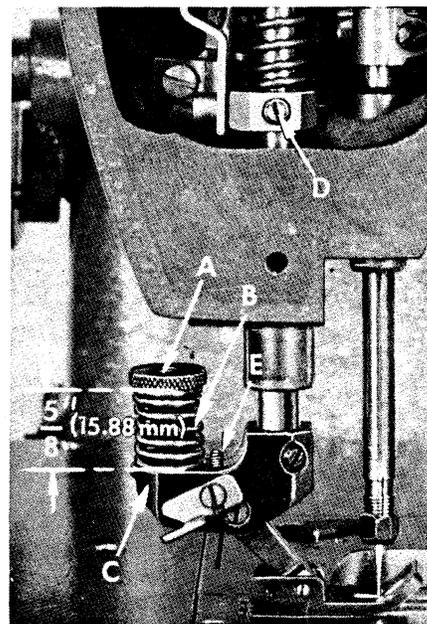

Fig. 17
As a preliminary setting, adjust spring regulator nut (A, Fig. 17) on feeding presser foot so the distance from the top of spring (B) to the yoke (C) is  $\frac{5}{8}$  inch (15.9mm), (See Fig. 17). Assemble the feeding presser foot to presser bar. With presser foot resting on throat plate and feed dog down, press down on spring regulator nut (A, Fig. 17) until the marks on presser foot bottom line up with the centerline of needle, while keeping the needle in the center of needle slot, tighten set screw (D) securing presser bar guide to the presser bar, making sure stop screw in presser bar guide is resting on the bed casting.
When the presser foot is lifted off the bare throat plate, the foot should move back only slightly, less than  $\frac{1}{64}$  inch (.4mm). The stop screw (E, Fig. 17) on the yoke, which is set at the factory, can be readjusted if necessary, should this dimension become changed.